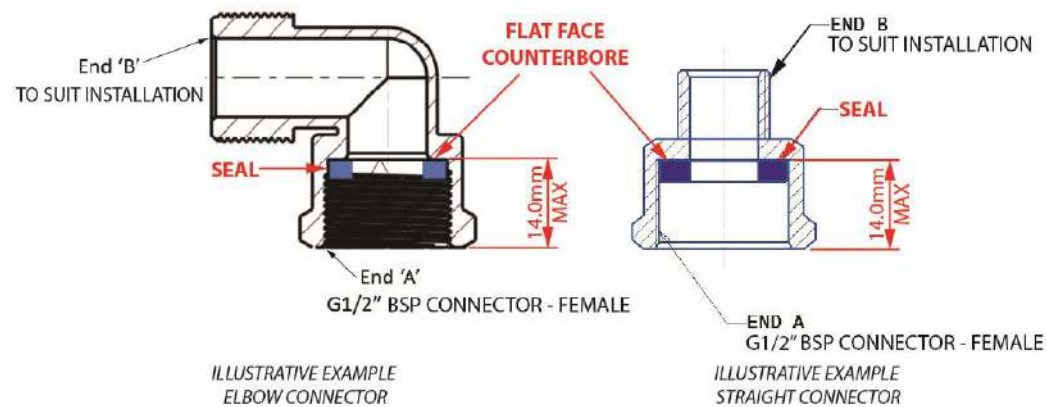

Figure 2 – Fitting connector examples
To eliminate this issue, **the silver gas connector** must be changed to a 1/2" BSP female and seal assembly, **End A**, as outlined in **figure 2** below. **End B** to suit installation. This can be either another elbow or a straight coupling, depending on pipe configuration.
- **Flat counterbore on seal mount face (refer to Figure 2)**
- Remove **Silver Elbow** and replace with 1/2" BSP female and seal arrangement as outlined in figure 2 (End A).